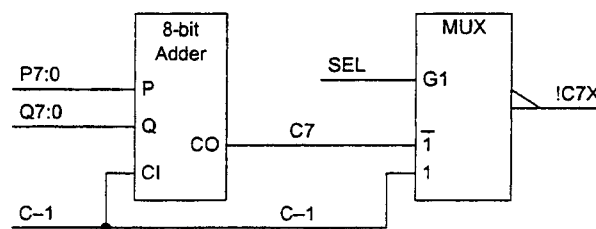

Figure 4.2
- In *Figure 4.2*, the 8-bit adder is followed by a carry-skip multiplexer. The signal C_{7X} has the same value as C_7 but has a lower propagation delay under some circumstances. Implement the multiplexer using logic gates to generate the carry signal, $!C_{7X}$, in bundle form with only one gate delay in the data path. Give a Boolean expression for SEL , the select input of the multiplexer. [4]